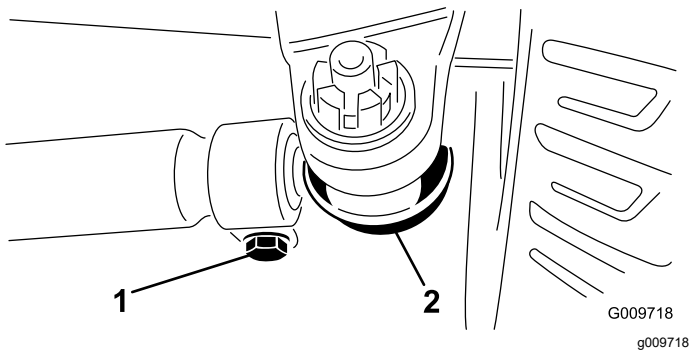

Figure 109
3. To adjust, remove the cotter pin and nut from either tie rod ball joint (Figure 109). Remove the tie-rod ball joint from the axle-case support.
4. Loosen the clamps at both ends of the tie rods (Figure 109).